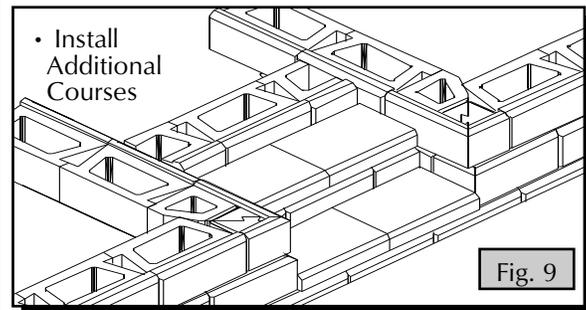

Fig. 9
- Repeat STEP 2 for each course of the stairs (Fig. 9). Note the alternating position of the corner blocks.